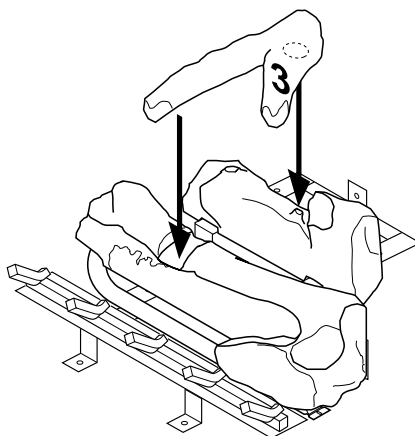

Figure 42 - Installing Log No. 3
3. Place log #3 (crossover log) onto the rear and front logs. Make sure it is seated properly into the notch on the front log and over the raised triangular portion of the rear log as shown in Figure 42.